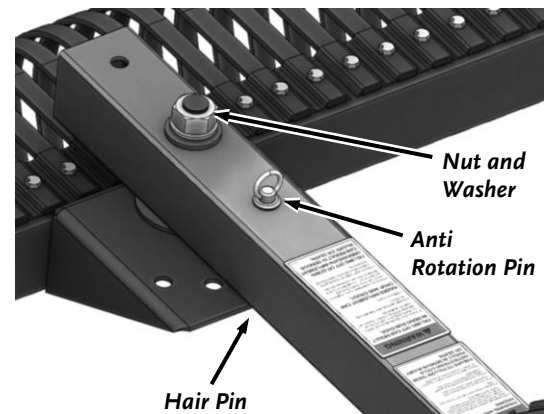

Figure 7
5. Secure the Tine Assembly and Frame with the M30 X 3.5 Nut and M30 Flat washer using a Large Adjustable Wrench (**Figure 7**).